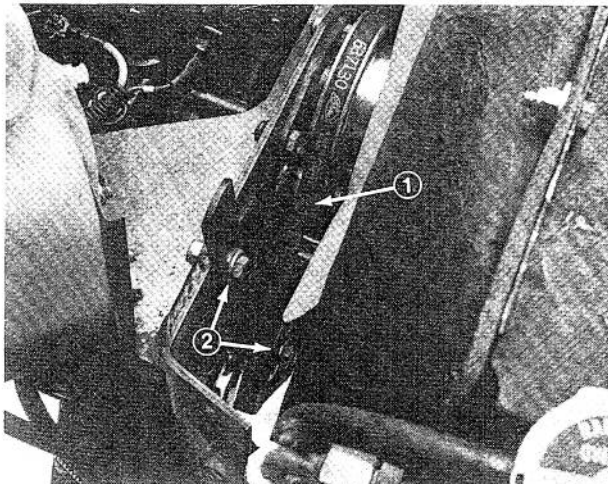

Figure 40
3. Remove two capscrews holding the transmission drive shaft coupler to the engine pulley (Fig. 40). Do not remove the drive shaft from the transmission.
2. Loosen idler pulley bolts (Fig. 40). Put 10 lb. of force on the top of idler pulley bracket and tighten the bolts.
1. Open hood. Loosen two flange nuts securing idler pulley bracket and move pulley away from belt (Fig. 40).